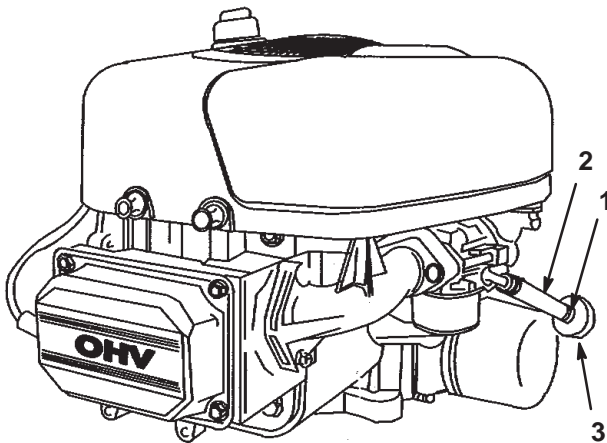

Figure 31
7. Loosen the hose clamp at the fuel filter and slide it up the fuel line away from the fuel filter (Fig. 31).
8. Pull the fuel line off the fuel filter (Fig. 31).
11. Slide the hose clamp close to the fuel filter to secure the fuel line (Fig. 31).
Replace the fuel filter after every 100 operating hours or yearly, whichever occurs first. The best time to replace the fuel filter (Fig. 31) is when the fuel tank is empty. Never install a dirty fuel filter after it has been removed from the fuel line.
7. Squeeze the ends of the hose clamps together and slide them away from the old fuel filter (Fig. 31).